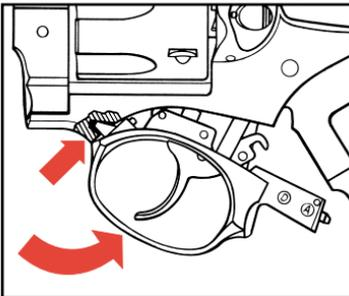
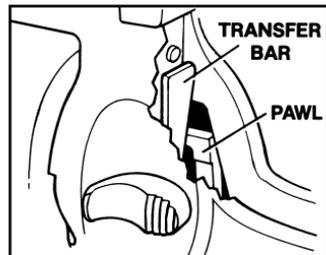

Figure 7
Figure 9
6. Use mainspring assembly to depress trigger guard lock plunger located inside frame at rear of trigger guard. Simultaneously pull down and remove trigger guard assembly (See Figures 7 & 8).
2. Hook front of trigger guard into recess in frame (See Figure 7, p. 17). Align pawl in its recess in the frame and be sure transfer bar is in correct position in rear of firing pin. Swing trigger guard upward into position in frame then allow latch to re-engage. If solid resistance is felt when swinging trigger guard into frame, or if trigger guard will not lock into position re-check position of pawl and transfer bar (See Figure 9).